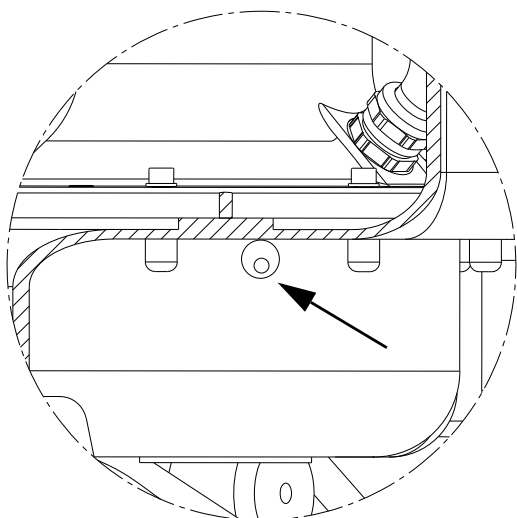

Fig. 31 Vent holes in pump housing and collecting tank
If the pump has been disassembled, remember to align the vent hole in the pump with the vent hole in the tank when remounting the pump to the tank. See figs 31 and 32.
b) The operating time protection is activated, the pump and time symbols are flashing, the red LED is flashing and the display indicates fault code F011. If the pump runs longer than 3 minutes, a protection program of the controller will stop the pump for 3 minutes and start it again after cooling time. This operating pattern will continue until a stop signal from the sensor brings the pump back to normal operation. Note: Normal operating time is up to 20 seconds depending on duty point and effective tank volume.	Check that the outlet valve is open. Check the venting of the pump housing. If blocked, clean the vent hole. See fig. 31.